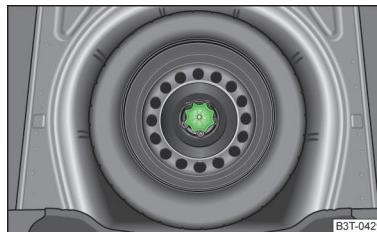

Fig. 136
The spare wheel is located in a well under the floor covering in the boot and is fixed in place with a special bolt » Fig. 136.
- › Unscrew the nut » Fig. 136 anticlockwise.
- Screw on the nut » Fig. 136 clockwise until the wheel is safely secured.